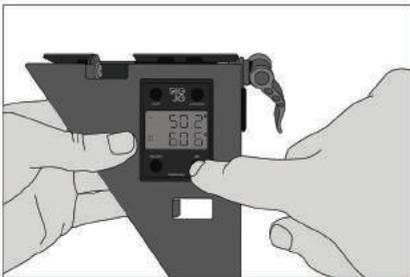

fig 14
- The angle at which the saw cuts through the coving is called the bevel. Find this by pressing the M/B button (**fig 14**).